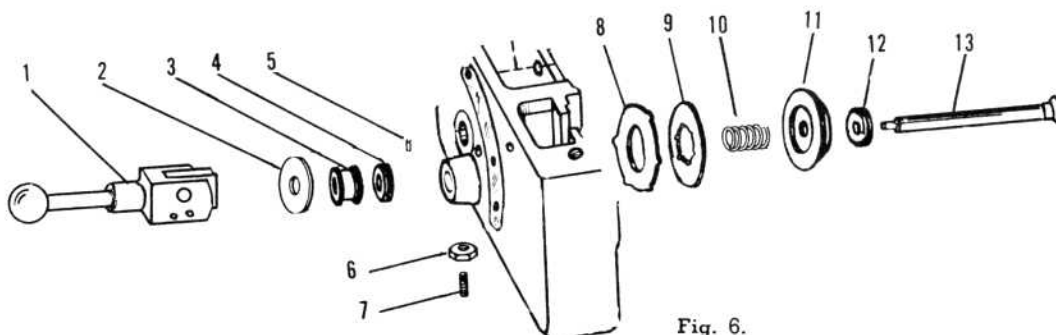
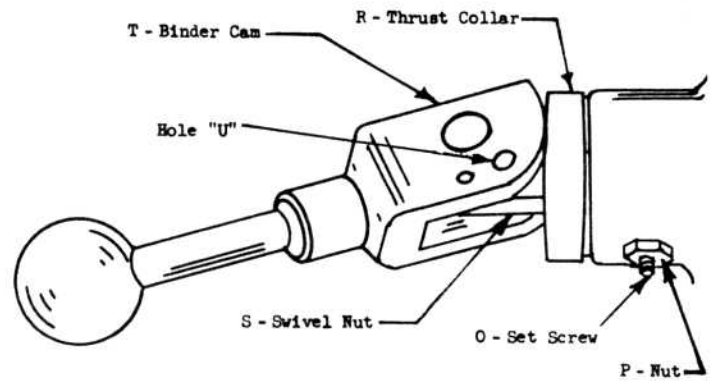

Fig. 6.
Fig. 2
10. With Allen wrench through hole "U" (fig. 2) loosen set screw and remove clutch handle and swivel nut together by turning counterclockwise. See item 1, fig. 6.
11. Remove thrust washer. Item 2, fig. 6.
12. Unlock nut and remove set screw. Items 6 and 7, fig. 6.
13. Remove retainer bushing and bearing. Items 3 and 4, fig. 6.
14. Remove pin from draw bar. Item 5, fig. 6. (Some models have a key instead of pin)
15. Remove clutch draw bar, bearing, clutch disc plate, spring, and clutch discs together on draw bar. Items 8, 9, 10, 11, 12, and 13, fig. 6.
1. Loosen lock nut "P" and set screw "O" (Fig. 2)